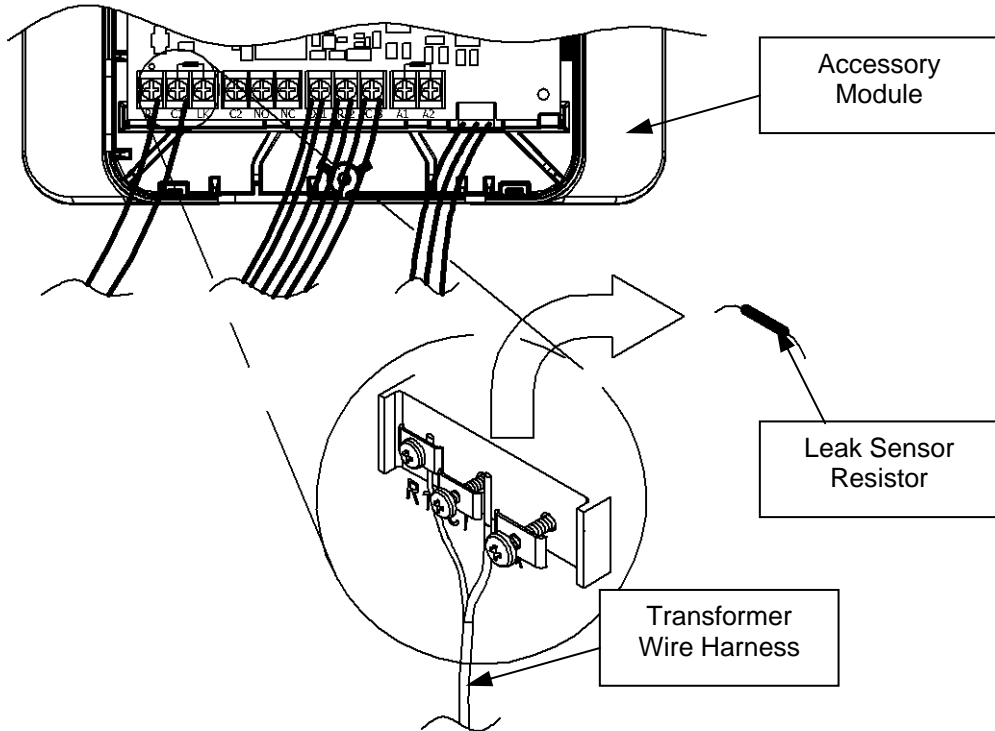

Figure 57
Step 6: Using needle nose pliers, remove the Leak Sensor resistor from the Accessory Module and discard. This is shown in Figure 57.